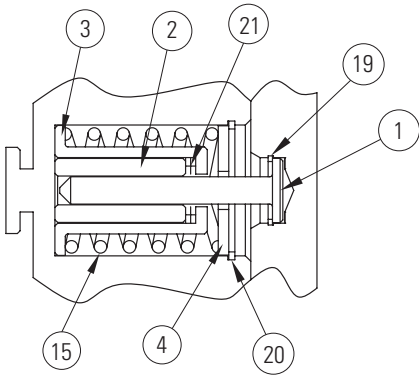

Figure 3
1.2.4 The shoe retraction and self-adjusting mechanism is contained inside of the caliper piston (8). The assembly is completely inside the caliper cylinder block (11) and is not subject to tampering or contamination by foreign matter. The wear adjustments are done automatically and no maintenance is required throughout the life of the friction shoes. See Figure 3.